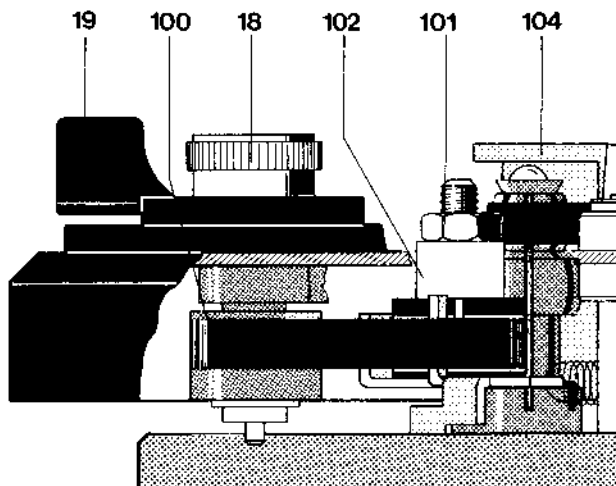

Fig. 8 Tonearm bearing
When reassembling the tonearm proceed in the reverse order, taking care that the threaded pin (49) is correctly seated in the bearing when fastening the frame (50) (see Fig. 8).